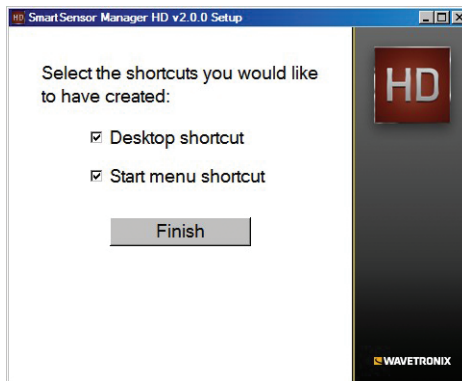

Figure 3.3 – Shortcut Options
- 9 After SSMHD is installed, you can create shortcuts to the SSMHD software on the desktop and in the start menu using the corresponding checkboxes (see Figure 3.3). If no shortcuts are desired, uncheck the corresponding boxes.